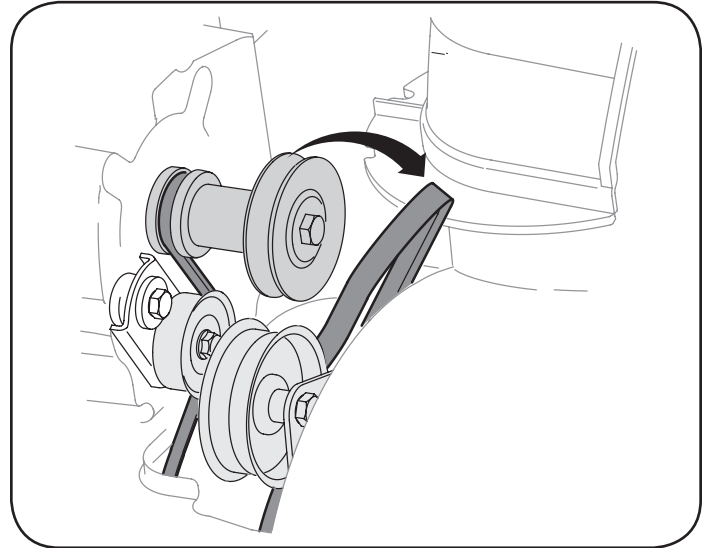

Figure 29
3. Roll the auger belt off the engine pulley. See Figure 29.